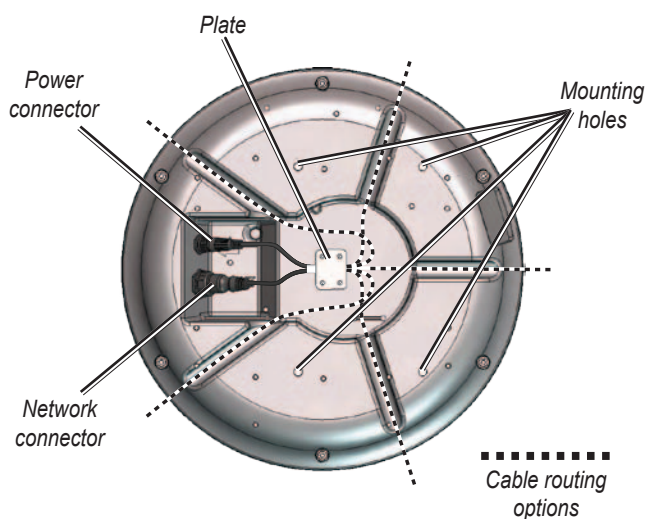
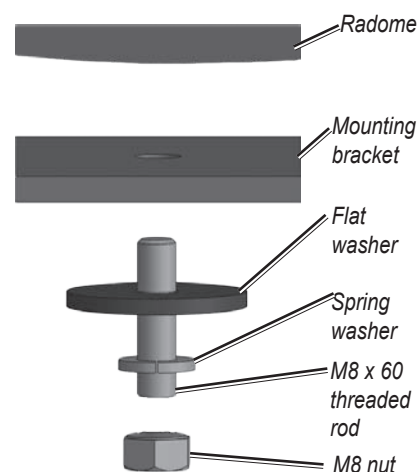

Figure 2
Figure 3
2. Align the notch and locking ring on the power cable to the power connector. Press the 2-pin power cable to the power connector and the RJ-45 marine network cable to the RJ-45 socket (Figure 2). Turn the power cable locking ring clockwise until it stops. Tighten the RJ-45 locking ring clockwise until it is firmly sealed.
3. The power and network cables may be pressed into any of the five guide grooves molded into the bottom of the radome case and secured under the cable hold-down plate (Figure 2). Avoid excessive bending or twisting of the cables. See the following "Cable Runs" section for more information.
6. Install the four (4) M8 x 1.25 x 60 threaded rods into the mounting holes on the bottom of the radome. There should be no more than 50 mm  $\pm$  1mm (2") extruding from the radome when they are installed properly.
7. Fasten the radome to the mounting surface using the M8 x 1.25 x 60 threaded rods (installed in the previous step), spring washers, flat washers, and M8 Hex nuts as shown in Figure 3. **The nuts should be torqued to between 13.7-18.6 N m (10-14 lb ft).**